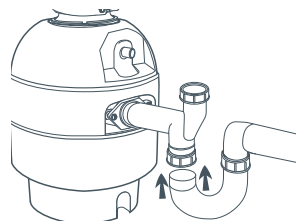

Fig. 11 Connecting the drain outlet
- 10 Align the discharge elbow up with the waste pipe (refer to fig.11) so that the waste disposer is correctly positioned, prior to engaging with the mounting assembly.
- 13 Connect the discharge elbow up with the waste pipe (fig.11) and tighten the slip nut on the drain pipe.